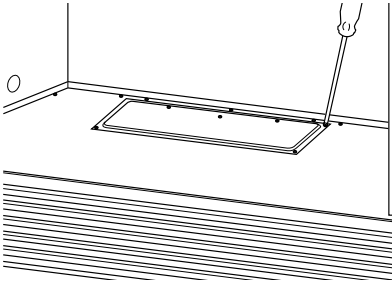

Figure 10 - Removing Blower Access Panel
1. Remove blower access panel (see Figure 10).